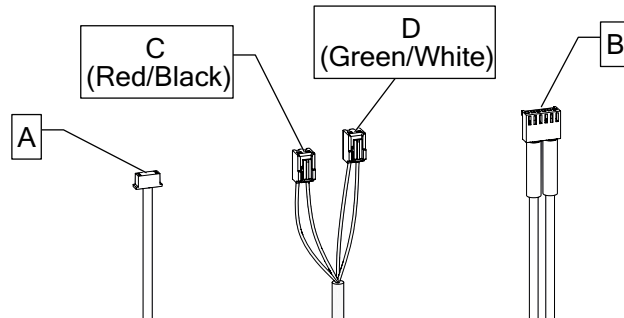
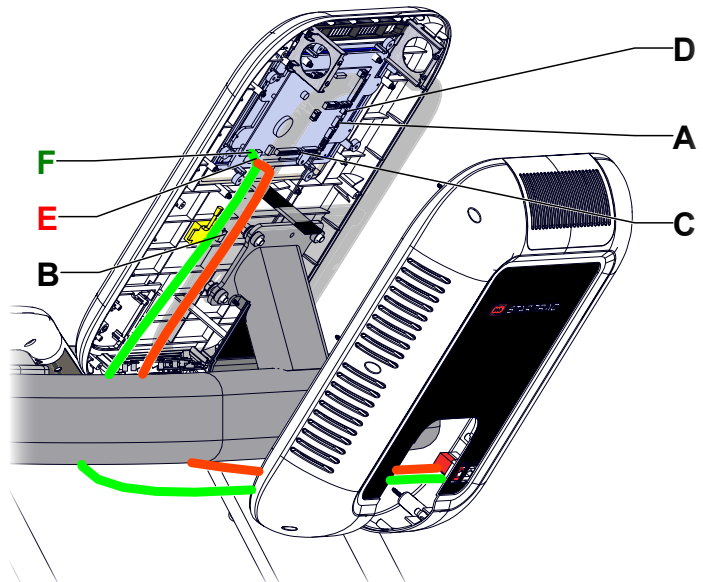

Fig. 22 Wiring from Neck of Unit
Fig. 23 Console Connections
19. Plug the three cables from Fig. 22 into the console as indicated in Fig. 23.